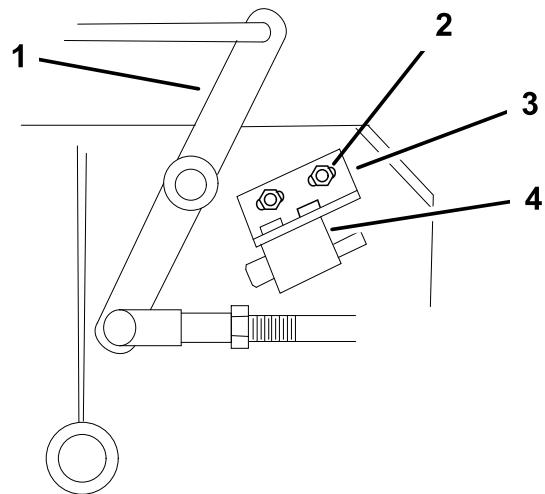

Figure 43
4. If needed, adjust the blade safety switch by loosening the bolts holding the switch bracket (Figure 43).
Note: Make sure the bellcrank **does not** touch the switch body or damage to the switch could occur (Figure 43).